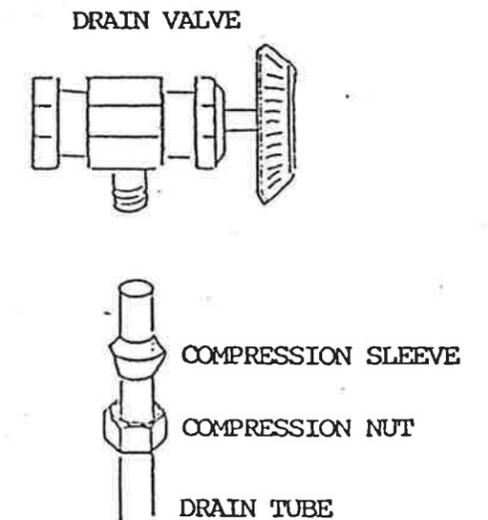

FIGURE 2
5. Loosen and remove drain nut, insert drain tube and compression fitting and replace nut as shown in figure 2.